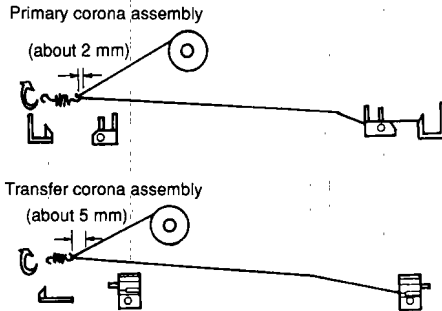

Figure 4-65
- 5) Hook the loop of the corona wire as shown in Figure 4-65, and lead the wire along the V-groove of the height adjusting roll.